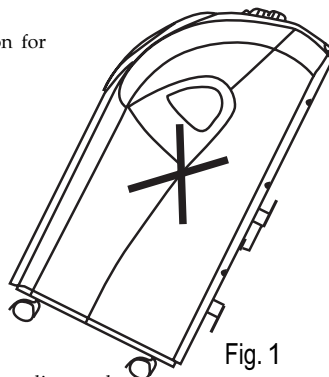

Fig. 1
- Always place the unit on an even surface (Figure 1).